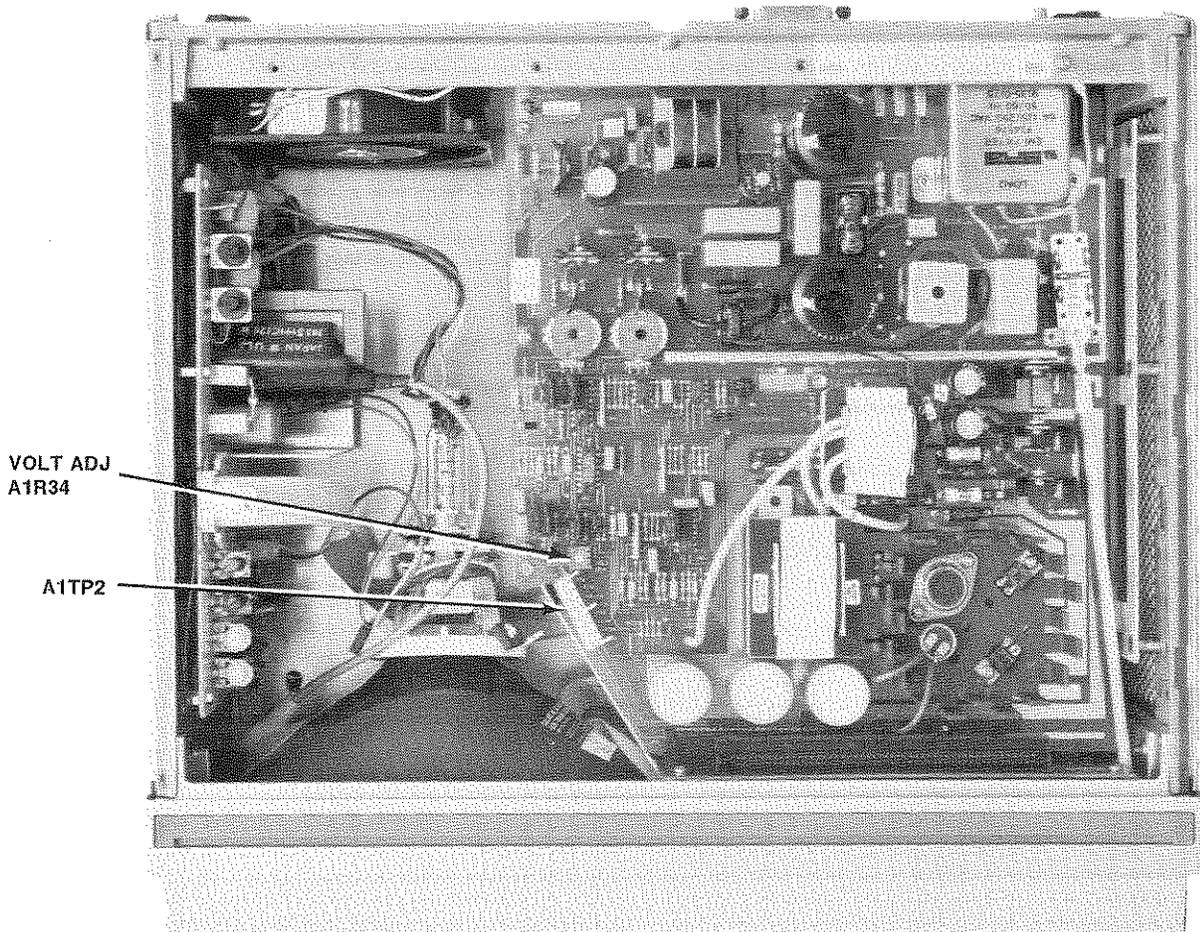

Figure 10-1. Power Supply Adjustment.
2. Connect voltmeter leads to ground and -5.2V on the LV board test connector A1TP2 (figure 10-1).
4. Adjust VOLT ADJ (A1R34) until the measured voltage reads -5.2 ±0.1 volt (figure 10-1).